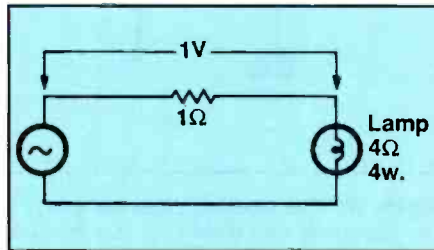

Figure 1. How much current is flowing in this circuit?
4. How much current is flowing in the circuit of Figure 1?